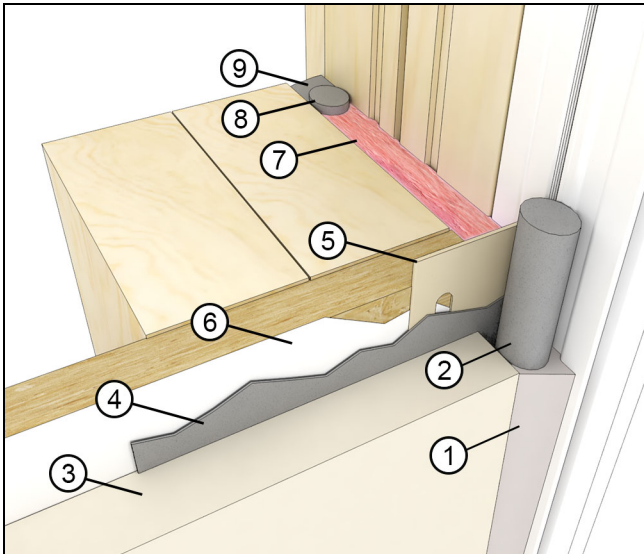

Figure 69
1. For ALL applications: Once the exterior finish such as siding or brick veneer is installed, apply backer rod (if applicable) and a bead of sealant between the finish and the frame exterior or casing along the sides. Apply additional beads approximately 1"-2" (25-51) at the ends on top of the drip cap. See Figure 69.